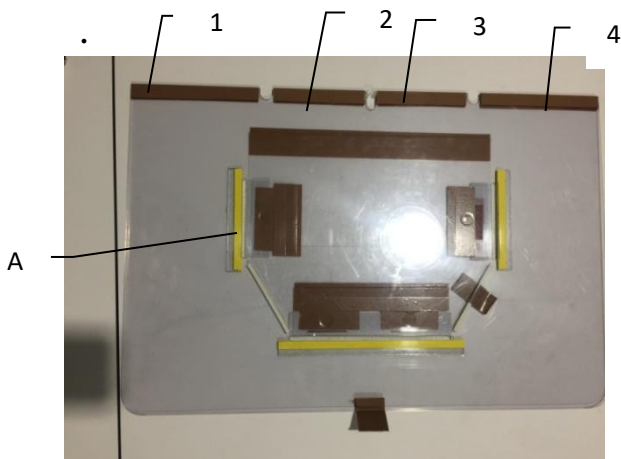

Fig 30
- As shown in fig.30 out the upper template on the lower template the sewing slots A of upper and lower templates should be aligned and overlapped and the special adhesive tape 4(wide 36mm) of the upper template should be glued at 1.2.3.4 on fig.30.31 as shown In fig.30.31